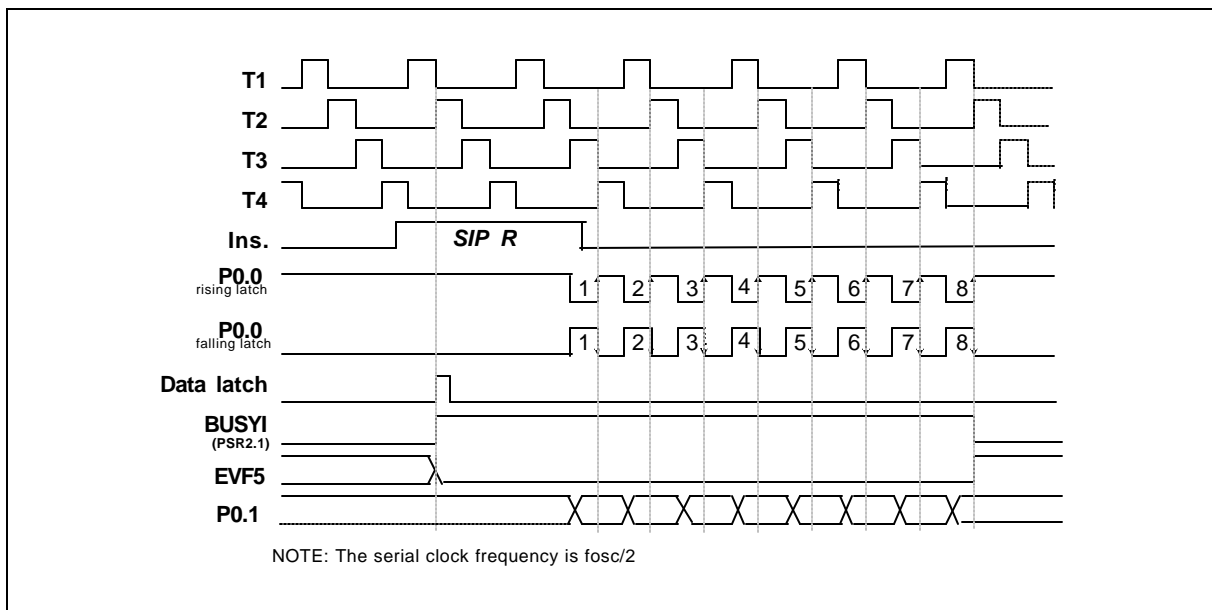

Figure 5-12 Timing of the Serial Input Function (SIP R)
- (1) When in the first time the SIP R instruction is executed, the data will be loaded from the serial input buffer to the ACC and RAM. But this data is not meaningful, it is used to enable serial port. There are two methods to get the serial data, one is interrupt and the other is polling. When enable the serial input, the bit 1 of port status register 2 (PSR2) will automatically be set to "1" (BUSYI = 1). Then the P0.0 pin will send out 8 clocks or accept 8 clocks from external device and the data from the P0.1 pin will be loaded to SIB buffer at the rising or falling edge of the P0.0 pin. After the 8 clocks have been sent, BUSYI will be reset to "0" and EVF.5 will be set to "1." At this time, if IEF.5 has been set (IEF.5 = 1), an interrupt is executed then the SIP R instruction can get the correct data from the serial input buffer(SIB), low nibble of SIB moves to ACC register and the high nibble moves to RAM; if HEF.5 has been set (HEF.5 = 1), the hold state is terminated. The polling method is to check the status of PSR2.1 (BUSYI) to know whether the serial input process is completed or not. If a serial input process is not completed, but the SIP R instruction is executed again, the data will be lost. The timing is shown in Figure 5-12.